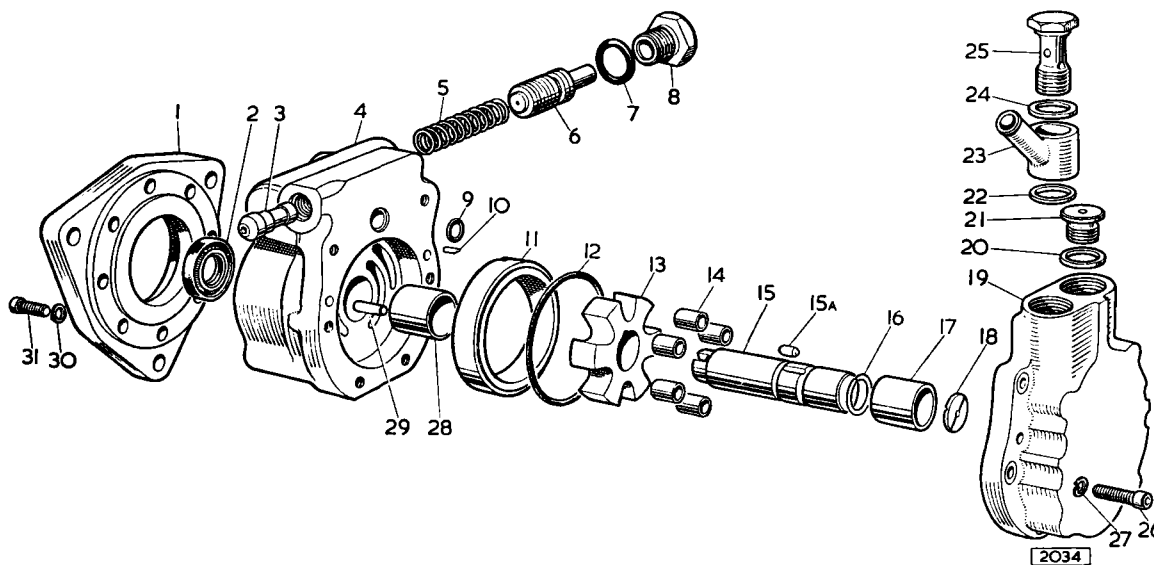

Fig. 30. Exploded view of the steering pump.
Remove the adaptor screw (25, Fig. 30), fibre washer (24), adaptor (23) and gasket (22).